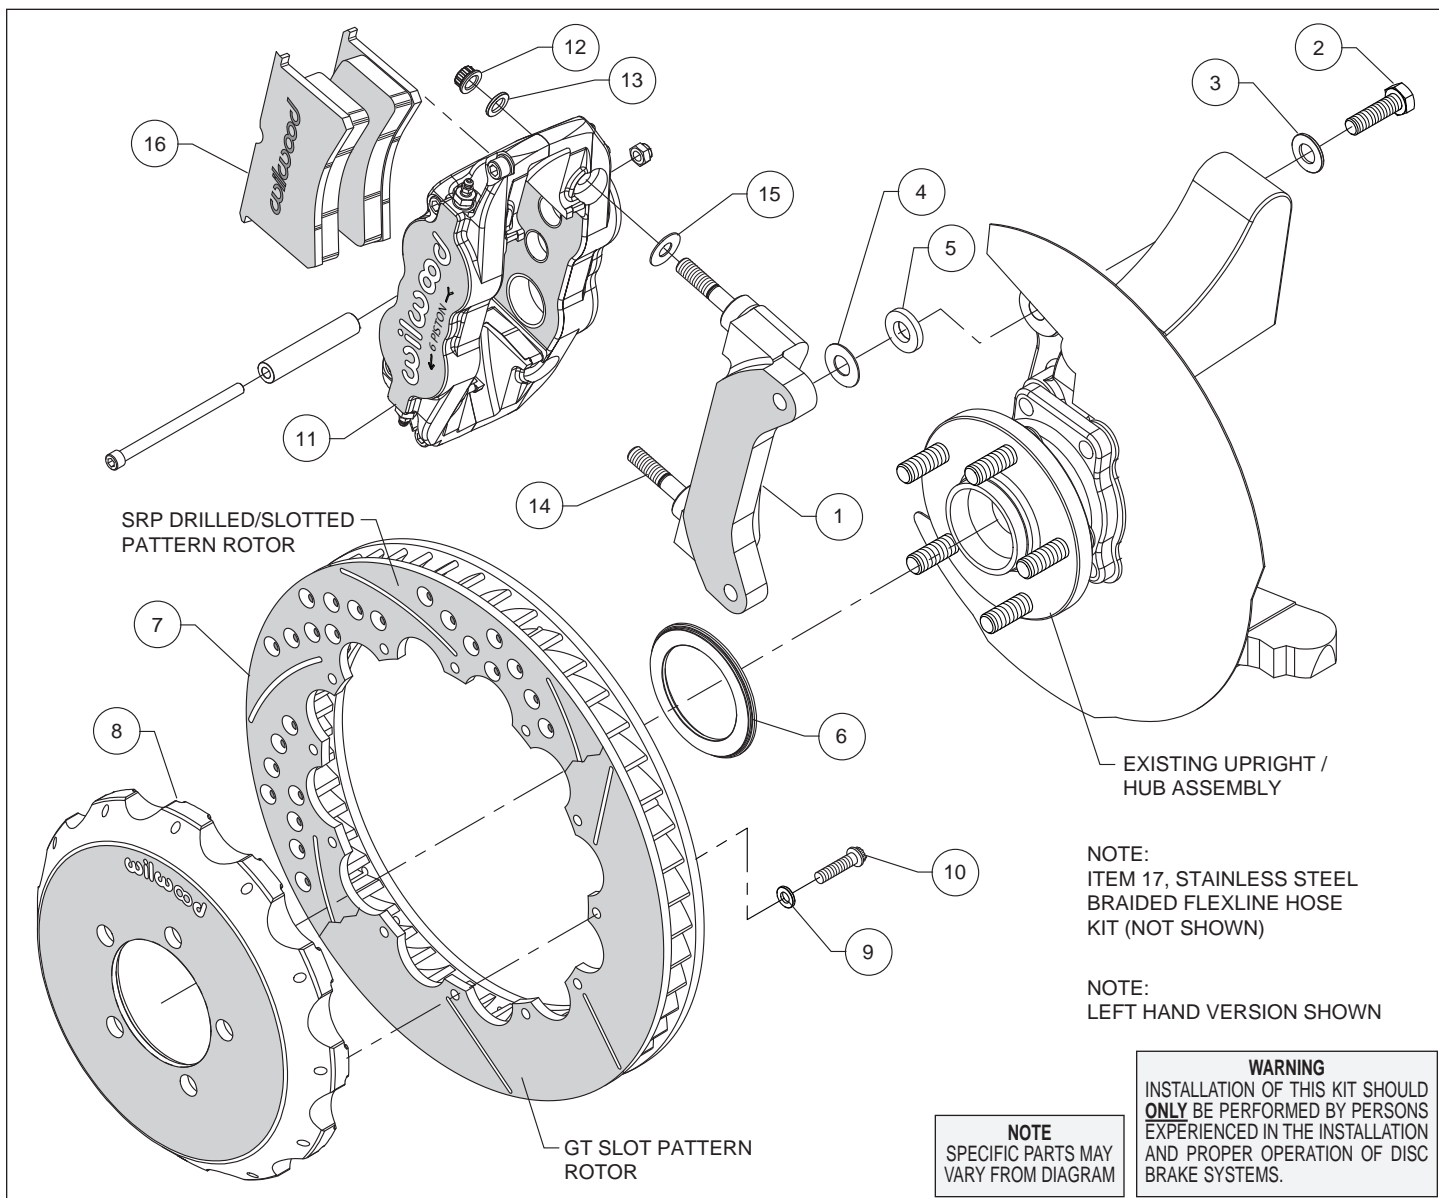
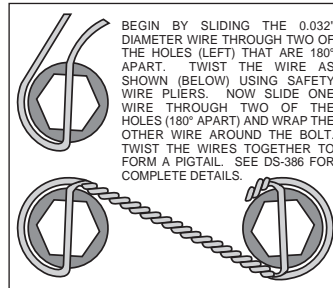

Figure 1. Typical Installation Configuration
Figure 3. Safety Wire Diagram
**Assembly Instructions** (numbers in parenthesis refer to the parts list and Figure 1 on the preceding pages):
- The caliper mount bracket (1) should initially be installed with clean, dry threads on the mounting bolts. Orient the bracket as shown in Figure 1 and Photo 1, and install using washers (3) and bolts (2). Initially place one shim (4) and spacer (5) on each bolt between the bracket and upright, Figure 1. Temporarily tighten the mounting bolts. **NOTE:** *The bracket must fit squarely against the mount bosses on the upright.* Inspect for interference from casting irregularities, machining ridges, burrs, etc. Later, after the caliper alignment has been checked, the mount bolts will be secured using red *Loctite*® 271.
- Orient the rotor (7) and the hat (8) as shown in Figure 1 and Photo 2. Attach rotor to hat using bolts (10) and washers (9). Using an alternating sequence, apply red *Loctite*® 271 to the threads, and torque to 155 **in-lbs**. For an added measure of security, the bolts may be safety wired using standard 0.032 inch diameter stainless steel safety wire as shown in Figure 3. Please refer to Wilwood's data sheet DS-386 (available at [www.wilwood.com/Pdf/DataSheets/ds386.pdf](http://www.wilwood.com/Pdf/DataSheets/ds386.pdf)) for complete safety wire installation instructions.
- Slide the rotor registration adapter (6) onto the axle register on the axle hub with the smaller O.D. facing outward, Photo 3. Slide the hat/rotor assembly onto the axle hub. **NOTE:** *The hat must fit flush against the axle hub flange or excessive rotor run out may result.* Install three lug nuts (finger tight) to keep the hat/rotor assembly in place while continuing with the installation.
- NOTE:** *This kit contains distinct right and left hand calipers that must be mounted in a specific direction, as described below.* Lubricate the caliper mounting studs (14) with lightweight oil. Initially place one .035" thick shim (15) on each stud as shown in Figure 1 and Photo 4. Mount the caliper (11) onto the bracket (1) using lock nuts (12) and washers (13), Figure 1. Ensure that the caliper is mounted so that the largest pistons are at the rotor exit end of the caliper, in relation to the direction of rotor rotation. Temporarily tighten the lock nuts and view the rotor through the top opening of the caliper. The rotor should be centered in the caliper, Photo 5. If not, adjust by adding or subtracting shims (4) between the bracket and the upright. Always use the same amount of shims on each of the two mounting bolts. Once the caliper alignment is correct, remove the bracket mounting bolts (2) one at a time, apply red *Loctite*® 271 to the threads, and torque to 60 ft-lb.